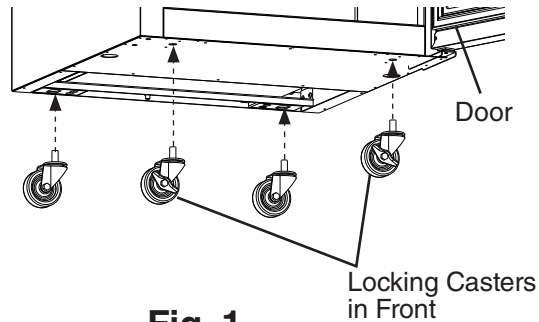

**Fig. 1**
- 3) Attach the casters to the bottom of the appliance. Locking casters should be attached to the front of the appliance. See Fig. 1. **NOTICE! Ensure casters are completely threaded into appliance and tight.**